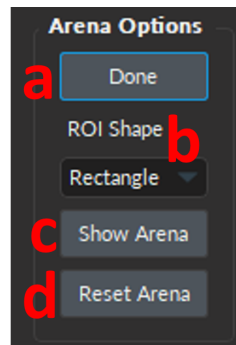

Figure 12.8: Animal Tracking window, Arena Options
- The **Draw Arena** button (Fig. 12.8, a), when selected, allows the users to draw a shape on a still frame of the video to define the part of the image that corresponds to the animal arena. This selected element will serve as the background for the moving animal. Once selected, the **Draw Arena** button becomes a **Done** button, which must be selected to save the current arena area for the algorithm.
- The **ROI shape** drop-down menu (Fig. 12.8, b) sets the geometrical shape that will be used when drawing the arena area. The user can select between: *Freehand*, *Rectangle*, *Circle* or *Square*.
- The **Show Arena** button (Fig. 12.8, c) will blackout the part of the video that isn't contained within the user-defined arena.
- The **Reset Arena** button (Fig. 12.8, d) will remove the video blackout that designates the arena in order to redraw the shape.